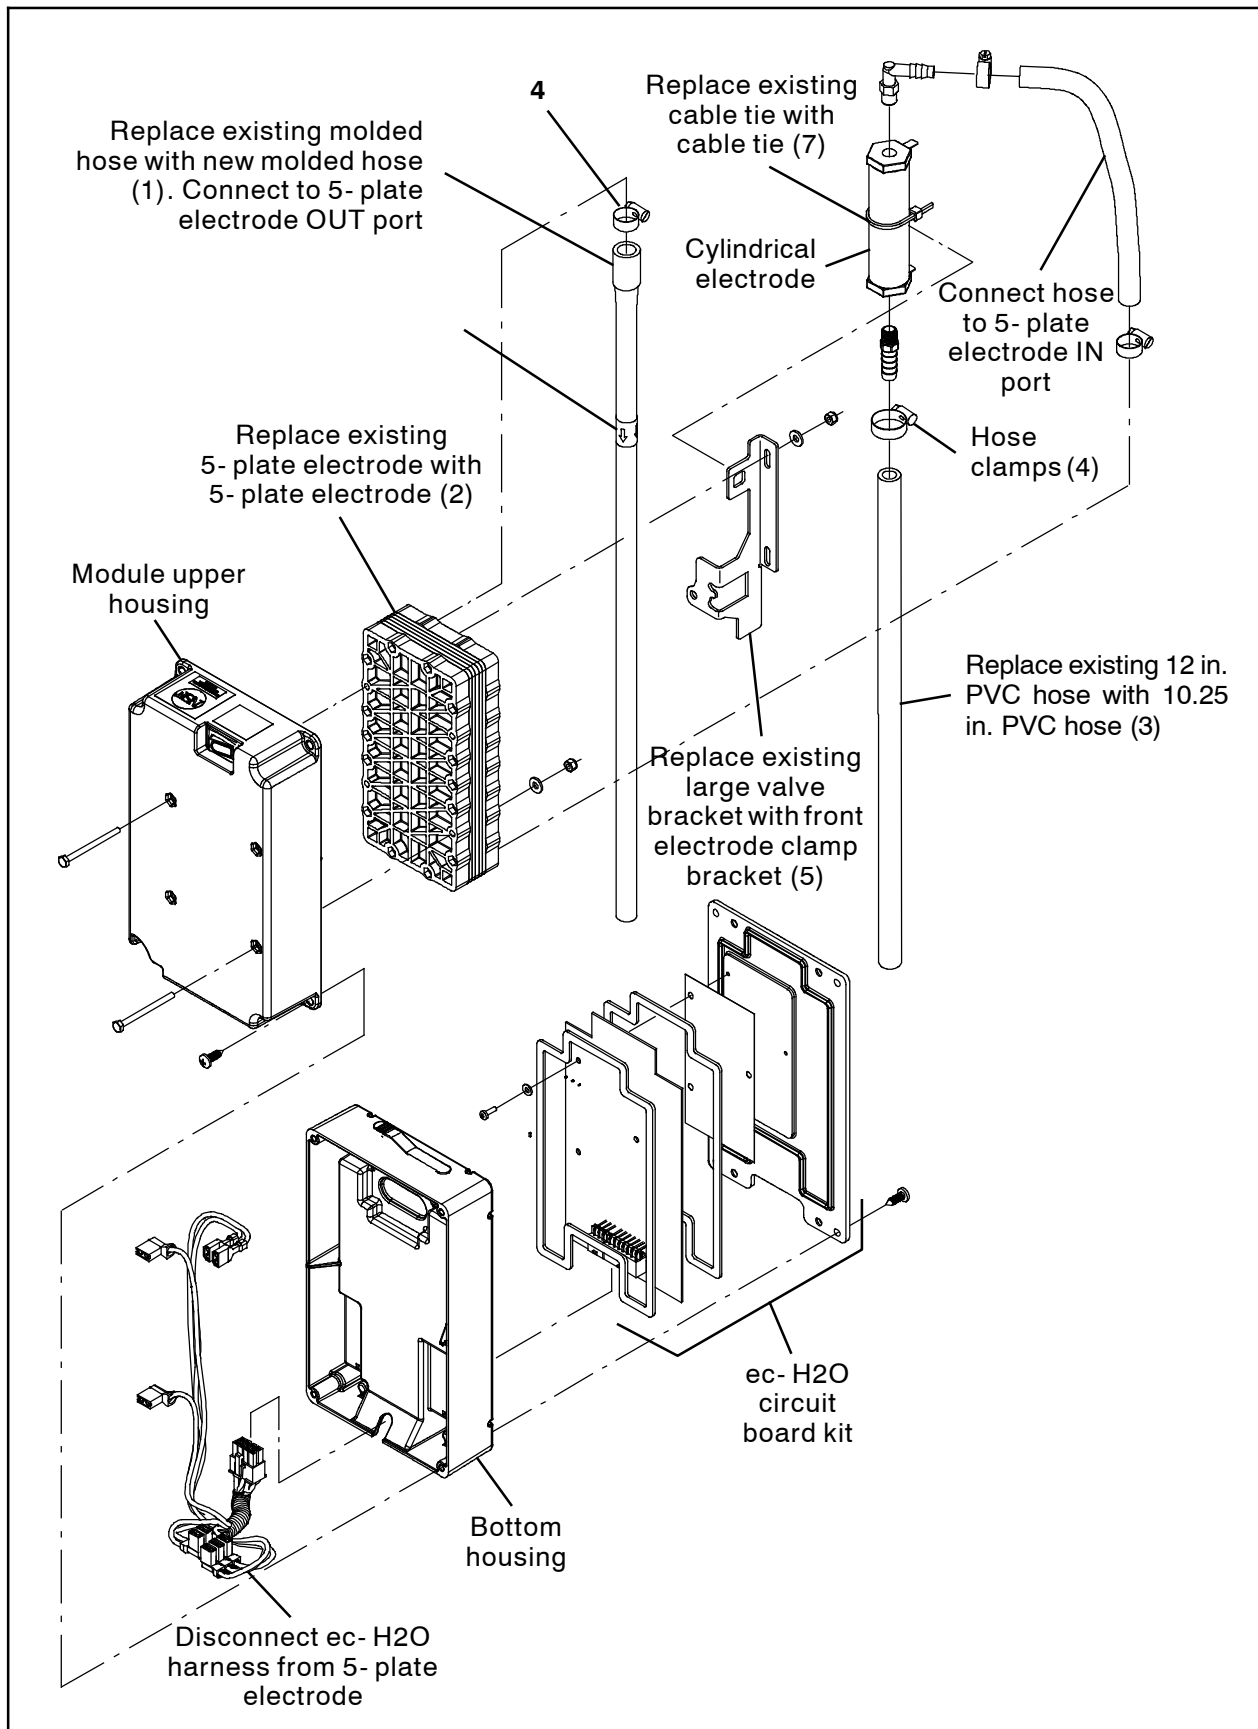

FIG. 5
4. Disconnect the PVC hose from the 5- plate electrode IN port. Set the hose clamp aside. Discard the removed PVC hose. (Fig. 5)
5. Disconnect the molded hose from the 5- plate electrode OUT port. Discard the removed PVC hose and hose clamp. (Fig. 5)
6. Remove the hardware securing the 5- plate electrode to the module upper housing. Set all hardware aside. (Fig. 5)
7. Disconnect the ec- H2O harness connections from the bottom of the 5- plate electrode. Discard the 5- plate electrode. (Fig. 5)
8. Cut the cable tie securing the cylindrical electrode to the electrode bracket. (Fig. 5)
9. Remove the electrode bracket from the 5- plate electrode. Discard the electrode bracket. Set the hardware aside. (Fig. 5)
10. Remove the 5- plate electrode from the module upper housing. Discard the 5- plate electrode. Set the hardware aside. (Fig. 5)
11. Remove the back mounting plate from the module upper housing. Discard the back mounting plate. Set the hardware aside. (Fig. 5)